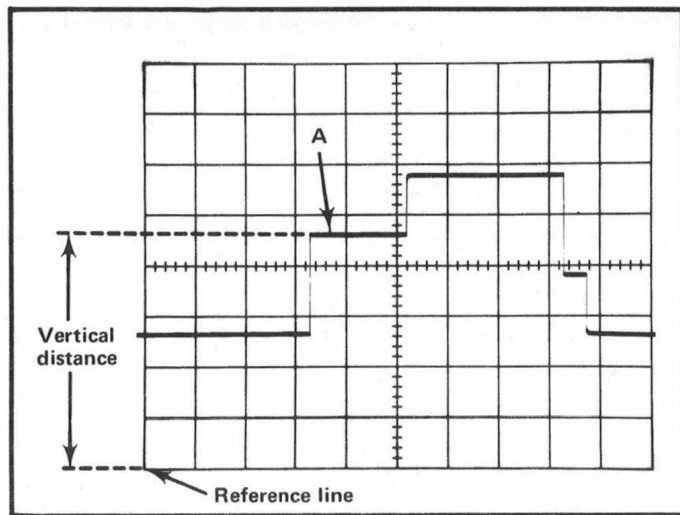

Fig. 3. Measuring instantaneous DC voltage with respect to a reference voltage.
9. Measure the distance in divisions between the reference line and the point on the waveform at which the DC level is to be measured. For example, in Fig. 3 the measurement is made between the reference line and point A.
Example. Assume that the vertical distance measured is 4.6 divisions (see Fig. 3), the waveform is above the reference line, and the VOLTS/DIV switch is set to 2.